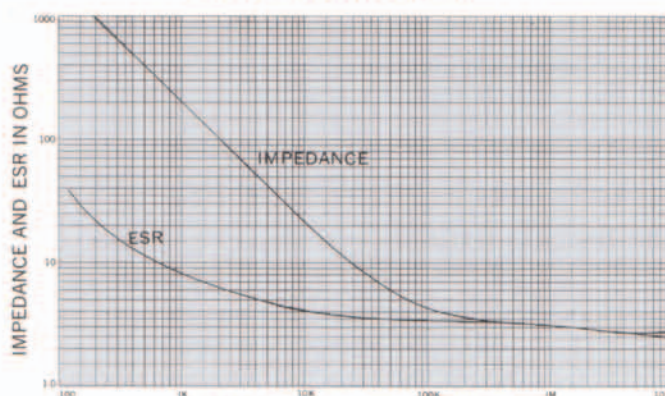

FIG. 6a 0.68uf — 20V FREQUENCY IN HERTZ
**Equivalent Series Resistance** — The equivalent series resistance (ESR) of a solid tantalum capacitor is frequency dependent as shown in Figure 6a thru 6d. The curves are typical of the capacitor values noted, with measurements being made by contacting lead wires 1/4 inch from the ends of the capacitor cases. Since ESR decreases with frequency, AC performance at higher frequencies is considerably better than would be predicted from the 120 Hz ratings.